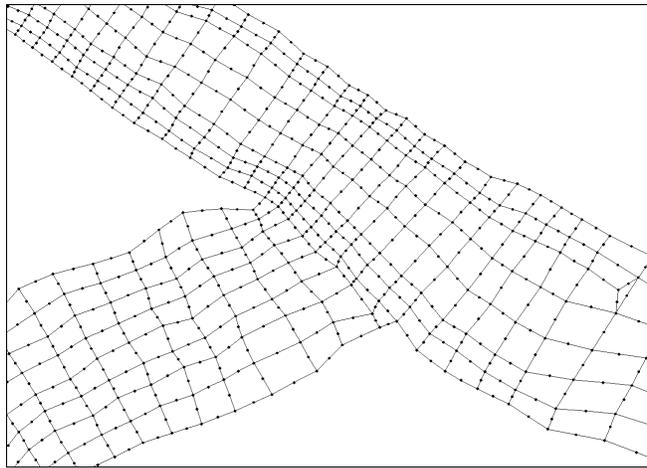

Figure 6-1. The area about which to zoom for the film loops.
A film loop is an animation created by *SMS* to display changes in data sets through time. Flow trace animations are a special type of film loop which use vector data sets to trace the path that particles of water will follow through the flow system. Only the visible portion of the mesh will be included in the film loop when it is created. For this tutorial, zoom into the portion of the mesh shown in Figure 6-1. To do this:
2. Click and drag the mouse to create a box about the area in Figure 6-1.